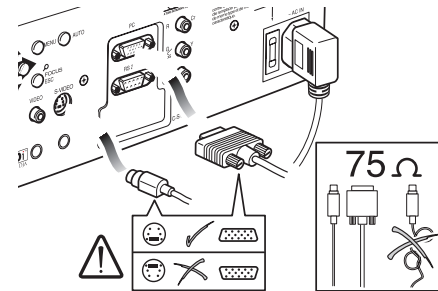

Fig. 15
- With exception of coaxial RCA/Phono type connectors, always double-check that the plug is inserted the correct way round to avoid damaging the plugs or the sockets on the projector (*Fig. 15*).